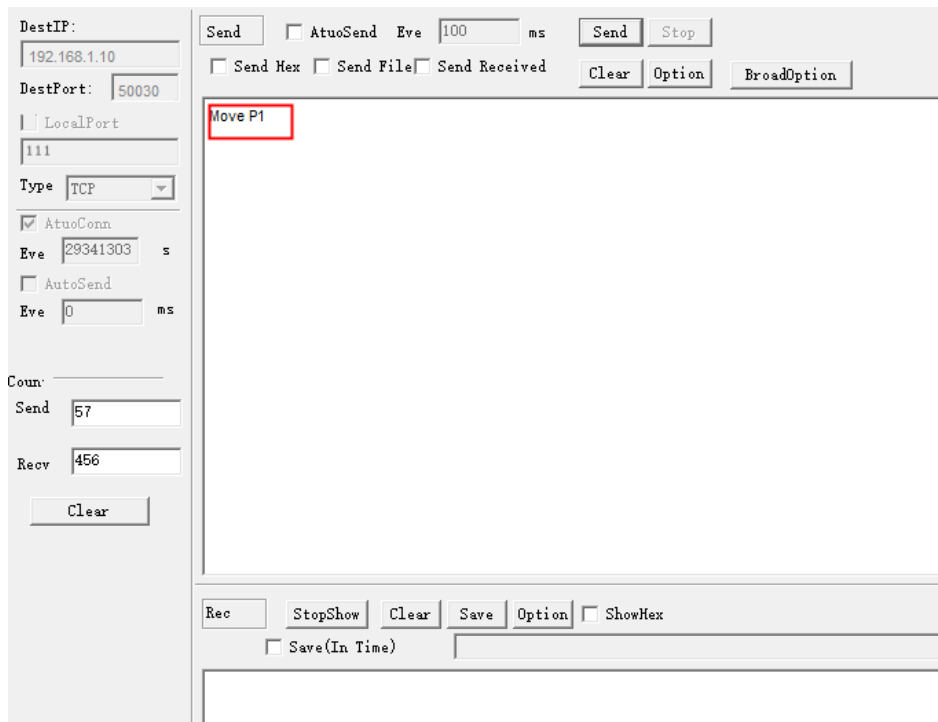

Figure 6.55 Send commands on the client
Step 4 Send **MoveP1** command in the sending section of client, as shown in Figure 6.55.